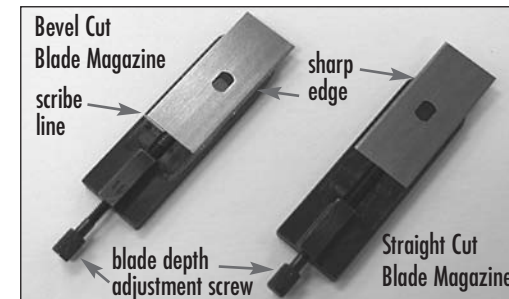
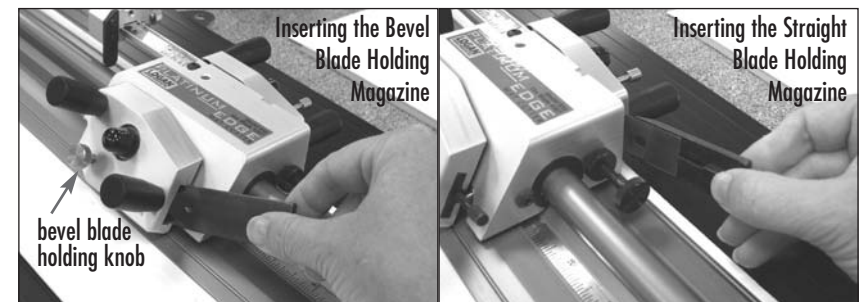

Figure 4
Figure 5
Place a fresh blade on the magazine with the sharp edge down – the magnet will hold it in place (Figure 4). Insert the magazine into the blade holder slot until the rear of the magazine is flush with the rear of the blade holder, then tighten the blade holding knob securely. You will be able to feel where the blade holding knob falls into the divot machined into the blade magazine (Figure 5).
**TIP** The bevel cut blade magazine features a scribe line (Figure 4) as a suggested place to align the rear of the blade. This line was factory tested with a commonly available 4-ply mat board. Your matboard thickness may vary, in which case the blade will require adjustment as described above.